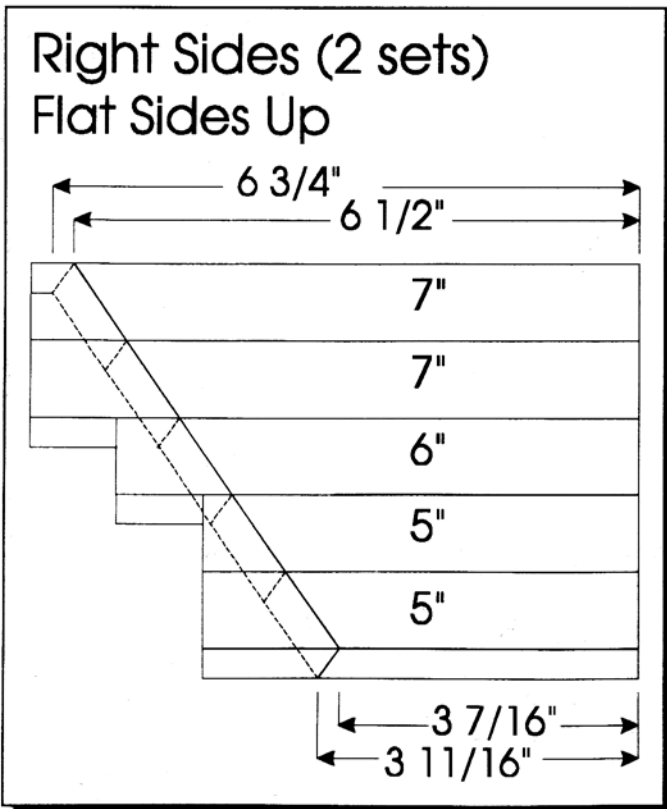

Figure 13- Dormer Right Side Roofs
d. For the right sides of the Dormer Roofs glue two 7", one 6", and two 5" pieces together with the flat sides up, draw and cut. See Figure 13.